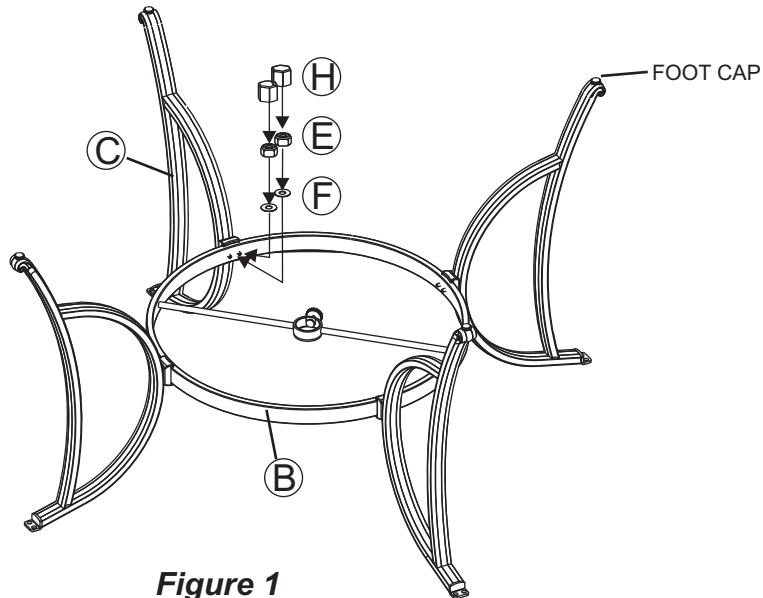

Figure 1
- 1 Attach a leg to the leg connector bracket by carefully guiding the bolts already in place on the table legs (each leg has two bolts) through the holes in the leg connector bracket. Add a washer and a nut to the end of each bolt as shown in **Figure 1**. **Hand tighten only**. Repeat on the other three legs.
1 **Important: We recommend 2 people work together to assemble the chair.** Note the arrow labels on the "U" bar and the rocker assembly. Also note the horseshoe shape of the rocker plate. Point the open end of the horseshoe away from you. The arrows on the rocker assembly should be pointing towards you. Set the chair frame on the rocker assembly with front of the seat facing you and the arrows on the "U" bar pointing towards you as shown in **Figure 1**. This is very important for a safe, balanced rocking motion. **If chair frame has been properly positioned on the rocker assembly, all arrows on the "U" bar and rocker assembly will be pointing in the same direction.**
2 **Critical Step: The "U" metal plates must be installed in the proper location.** Read this step and carefully examine. Insert the "U" metal plate, so that the "U" bar and rocker plate are between both sides of the "U" metal plate. Make sure that the holes in the "U" metal plate are completely aligned with the holes in the "U" bar as shown in **Figure 1**. Guide the bolts through the holes on the top side of the "U" metal plate, through the holes in the "U" bar portion of the chair, through the holes in the rocker plate and then, most importantly, through the holes in the bottom side of the "U" metal plate. It is very important that the holes in the bottom portion of the "U" metal plate be placed directly beneath the holes in the rocker plate. Add a spring washer and a nut to each bolt as shown in **Figure 2**. **Hand tighten nuts 3-4 revolutions only.** Repeat the same procedure on the other side.